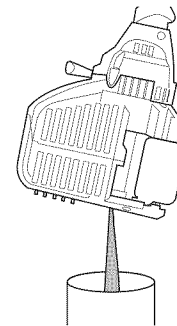

Fig. 19
3. Tip the unit vertically to pour the oil out of the oil fill hole and into a container (Fig. 19). Allow ample time for complete drainage.